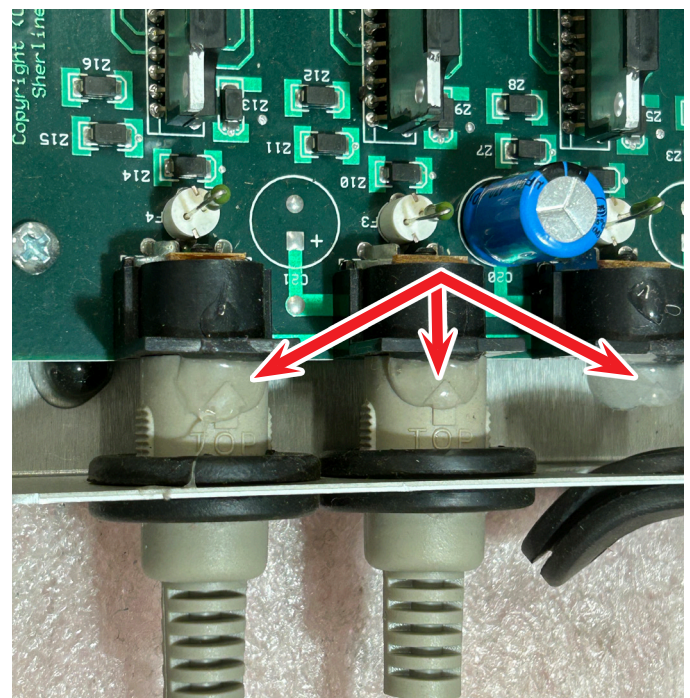

FIGURE 2—The red arrows show the clear silicone used to secure the power cables to the driver box.
- C. With the power off, open the driver box. We are going to switch the stepper motor power cables. When we assemble the driver box, we use clear silicone to secure each power cable to the driver box outlet (see Figure 2).